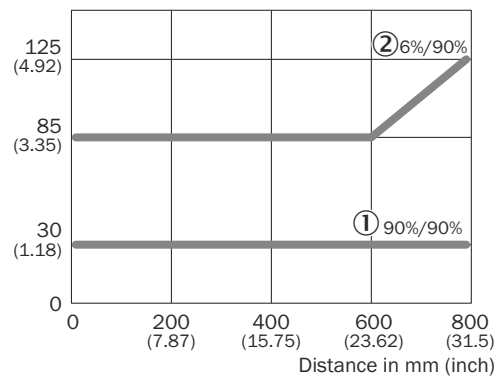

Figure 5: Minimum distance from object to background
5. Adjust the sensing range and distance to the object or background and the remission capability of the object. see figure 5, page 27